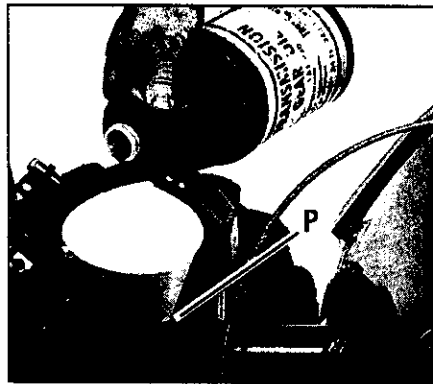

Figure 2-11: Adding gear oil in oil fill hole.
- (a) Clean area around oil fill hole (P, Figure 2-11) and unscrew oil fill plug.